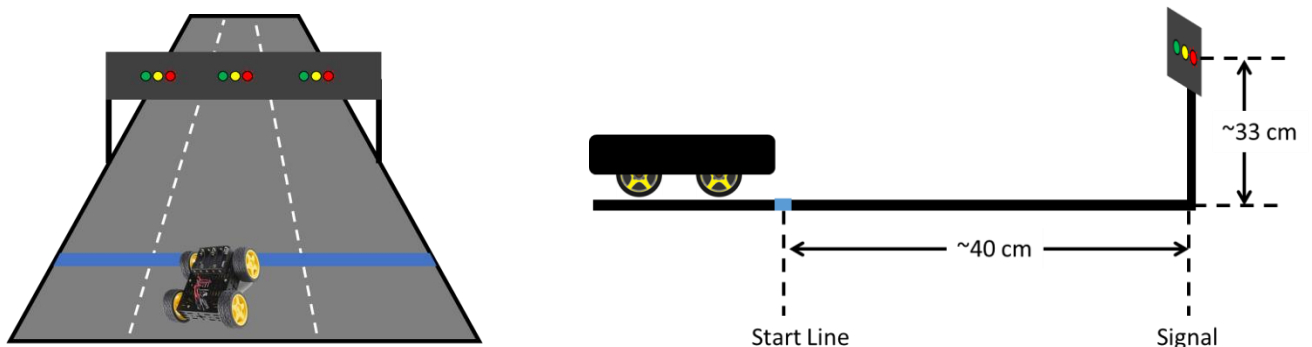

Figure 3 - Traffic Signal Demonstration
- The vehicle should start upon the traffic signal’s green signal. The traffic signal changes in sequence from Red -> Yellow -> Green. Demonstrations of the traffic signal setup as well as the dimensional specifications are shown below in Figure 3.